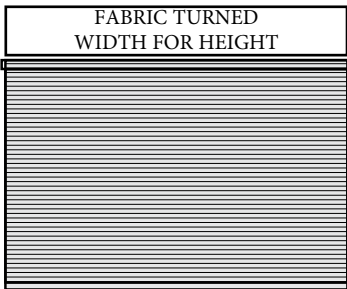

Fig. 2
- Ordered shades that are wider than the maximum fabric width will be made with the fabric turned width for height (horizontally oriented) (Fig. 2). **This only applies to fabrics that can be turned width for height (railroaded).**